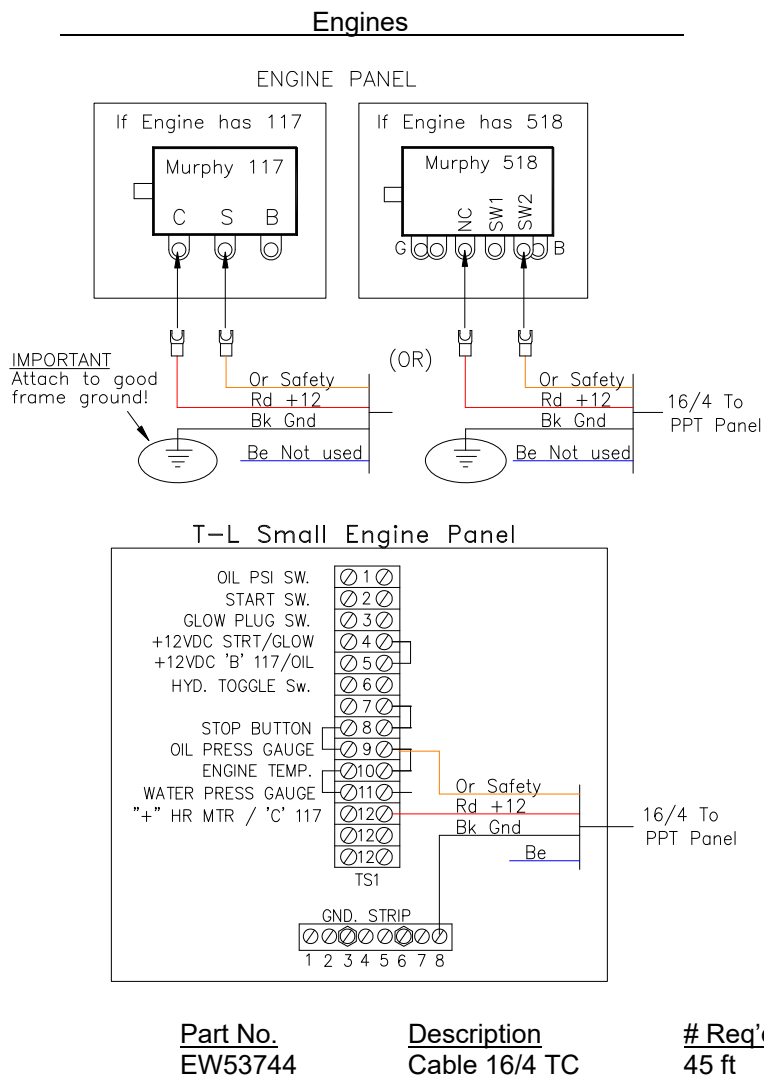

Figure 202. PPT Engine Power Wiring.
11.3 Power Cable Wiring to PPT Panel (Figures 202 & 203)